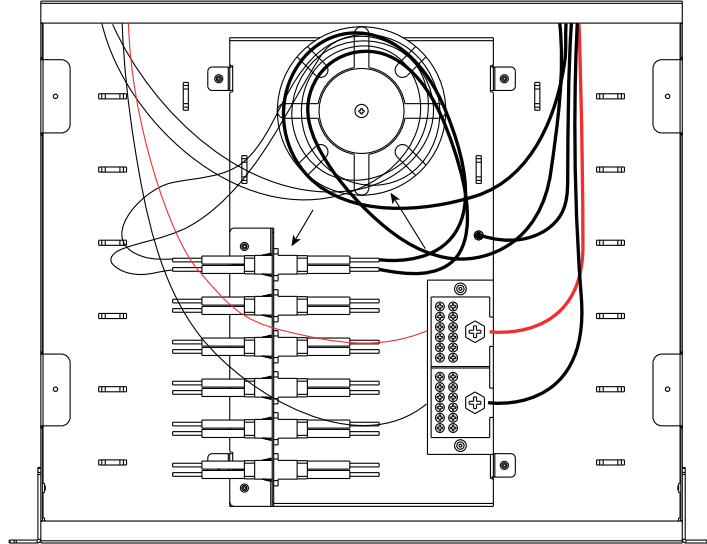

Figure 6
- a. Secure the outgoing PFC to the cable clamp with a cable tie. (Figure 6)
- d. Loop excess fiber around the built-in spool. (Figure 6)